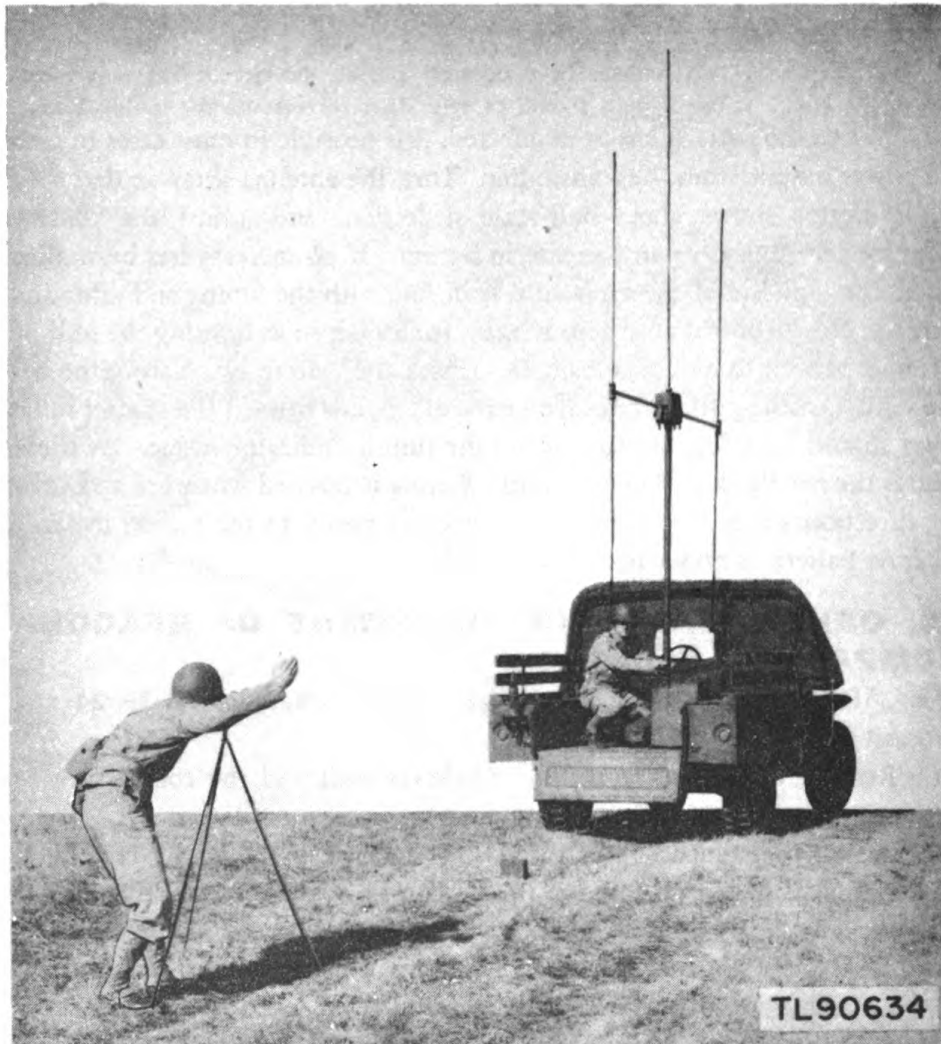

Figure 31. Orienting the beacon.
b. The easiest way to orient the beacon is to use two men as shown in figure 31 for the operation, with one man stationed at the beacon, and the other man at the compass, although one man can accomplish the orientation.
- (1) Disengage the clutch and line up the null (white stripped) end of the beacon array so that it points to the compass. Use the sight on the mast and take directions from the compass operator.